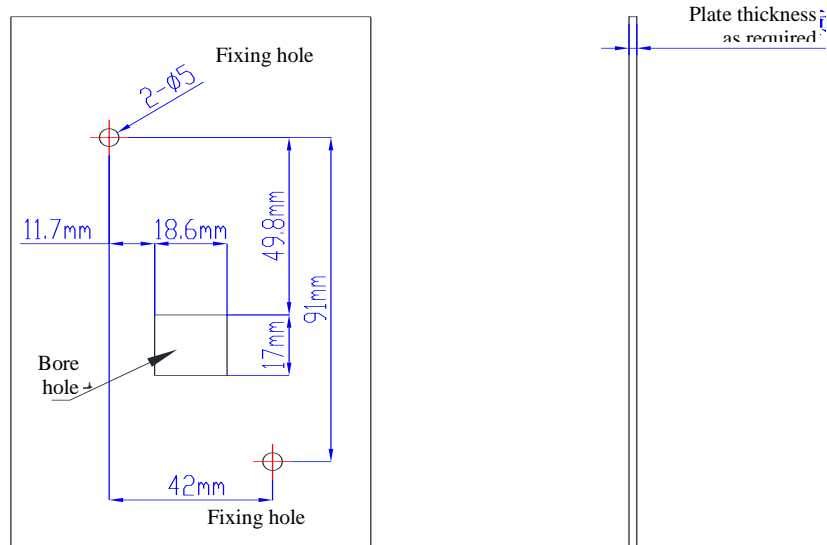

Figure 2-8 Diagram of dimensions of punching holes on the cabinet door of the external access panel
- 1) Install the external access panel using a manual operator, punch holes on the door, and fix the cabinet door. The cabinet door punching dimensions are shown in Figure 2-8: